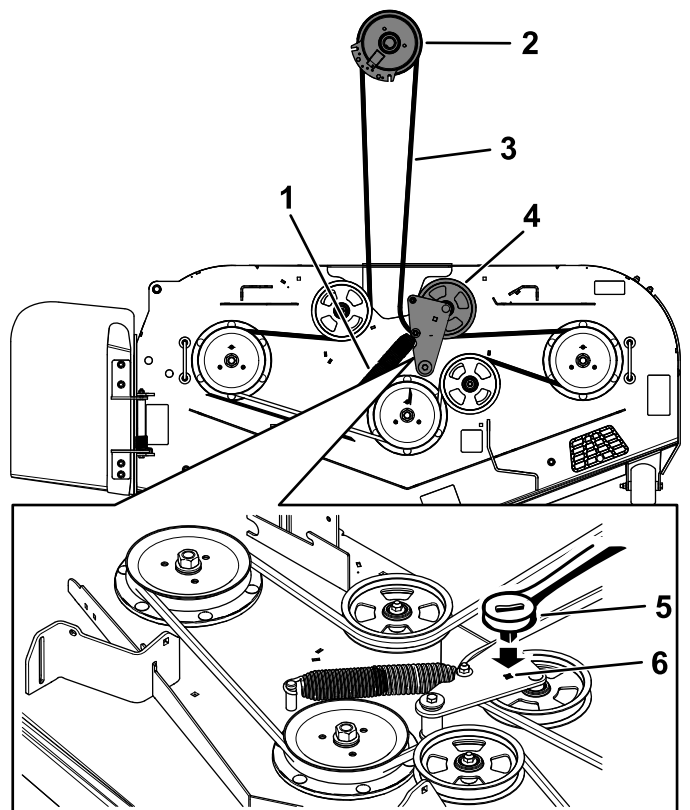

Figure 70
10. Install the belt guide on the idler arm (Figure 70).
11. Using the 3/8-inch ratchet in the square hole, install the idler spring (Figure 70).
5. Use a 3/8-inch ratchet in the square hole in the idler arm to remove tension on the idler spring (Figure 70).
7. Remove the belt guide on the spring-loaded idler arm (Figure 70).
9. Install the new belt around the mower pulleys and the clutch pulley under the engine (Figure 70).